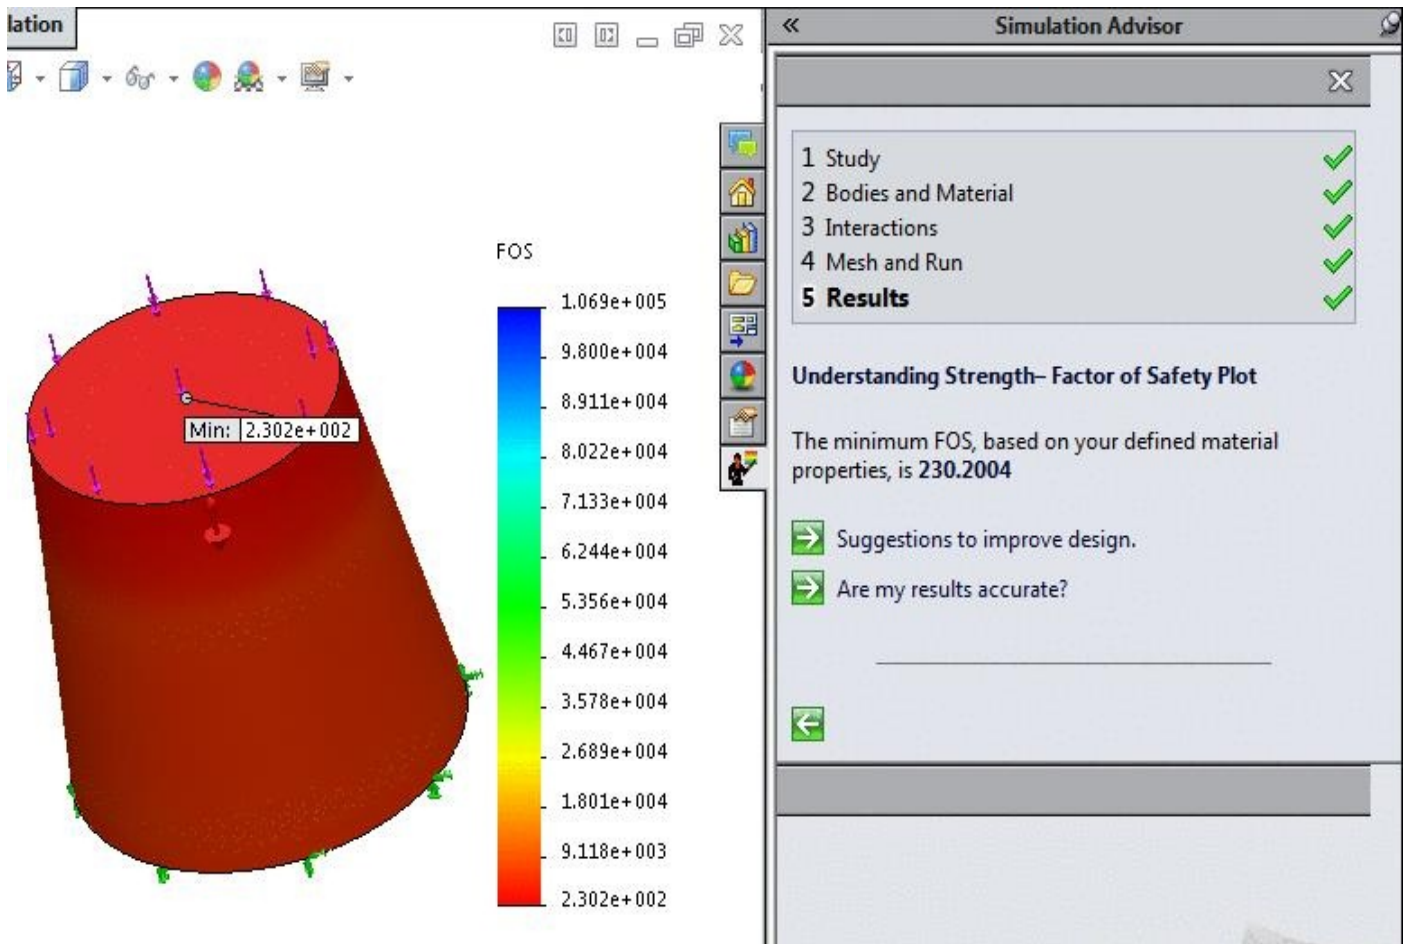

Figure-51. Factor of safety result
- Next, Click on the **Material breaking or yielding** link button and then **Show Factor of Safety plot** link button to plot the **Factor of Safety** result. The result will be displayed; refer to Figure-51.